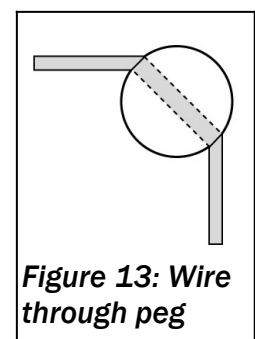

Figure 13: Wire through peg
- ✓ I recommend orienting the peg so the wire makes two 45° turns, as seen in Figure 13. This makes it a bit easier to move the wire through a corner hole if adjustments are needed while wiring the antenna.